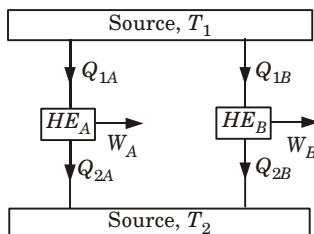

Fig. 2.7.1. The cyclic heat engines HE_A and HE_B operating between the same source and sink.
2. From Fig. 2.7.1, let both the heat engines HE_A and HE_B be reversible and $\eta_A > \eta_B$. Let the rates of working of the engines be such that